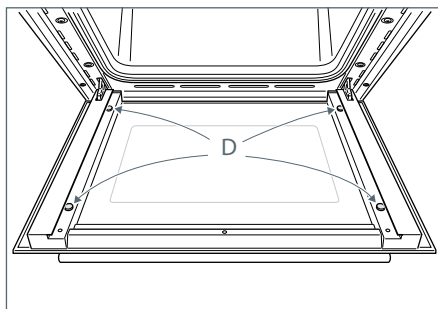

Fig.39a
- Check that the four rubber pads are in place ("D" in Fig. 39a).